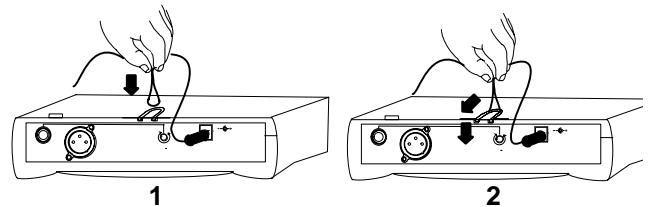

FIGURE 7. AXR4N POWER CABLE RETAINER
1. Plug one end of the AC power adapter into the DC INPUT connector on the back of the receiver. **AXR4N:** Loop the power cable around the cable retainer on the bottom of the receiver. See Figure 7. Plug the other end into an AC power source (use PS20 for 105–125 VAC). The green POWER light on the receiver will glow.